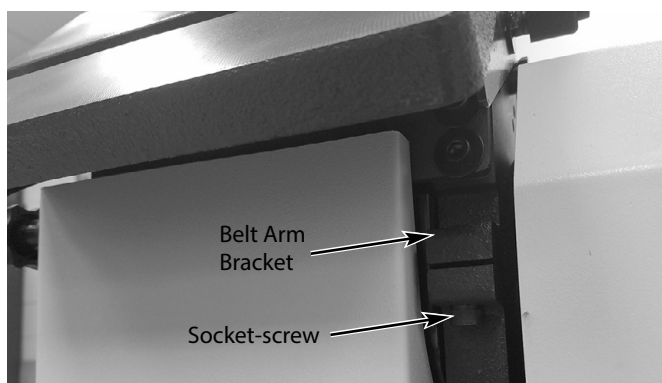

Figure 8 - Belt arm bracket and socket-screw location.
Refer to Figures 8 and 9
1. Loosen the socket-screw in the belt arm bracket, shown in figure 8, using an allen wrench.